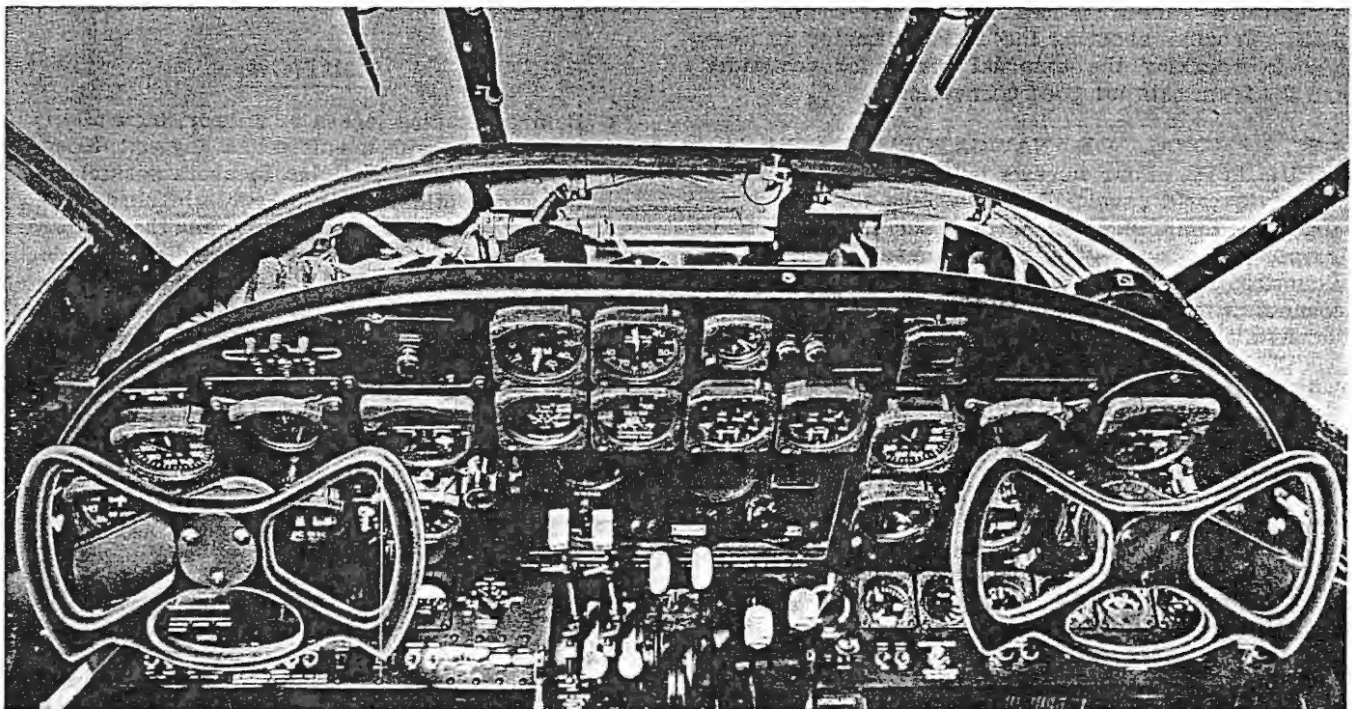

Figure 6-2. Instrument Removal Access
- a. Remove screws holding instrument panel in vertical position and tilt panel down (figure 6-2).